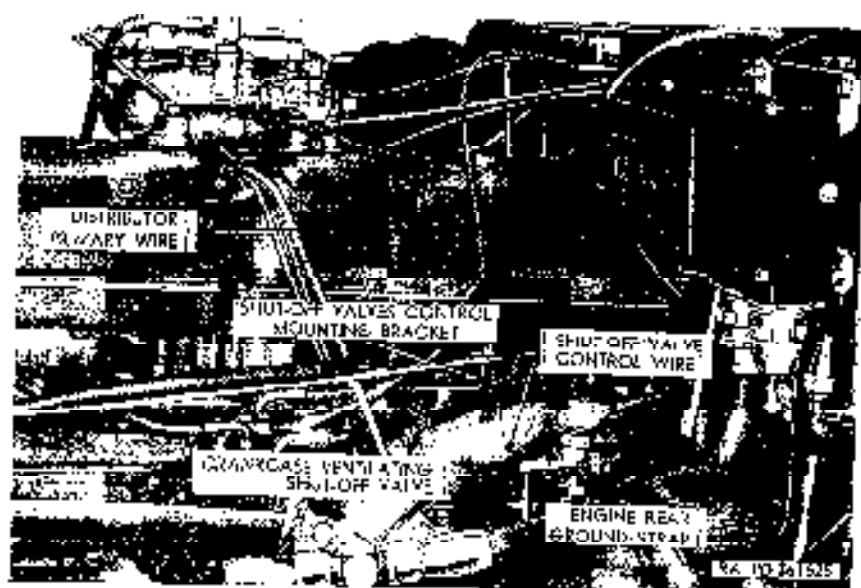

Figure 147.—View of upper left side of engine.
- (10) *Remove engine front mounting support cap screws (fig. 147).* Remove five cap screws and lock washers from engine front mounting.